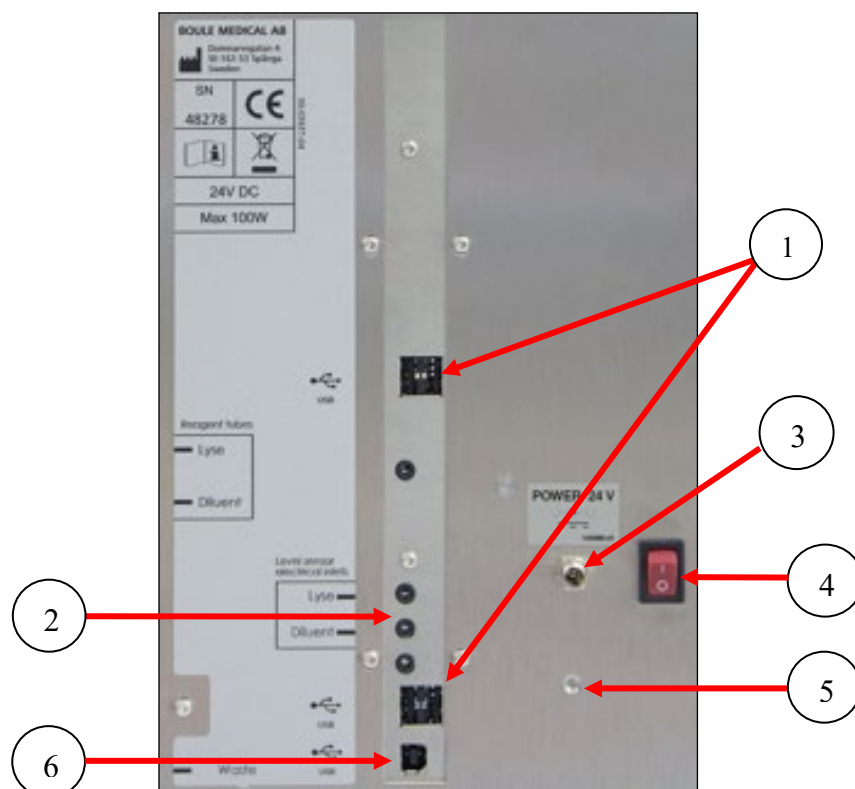

Figure 2.8
**Printer Connection** The printer is connected to the rear of the instrument with USB printer cable. (Printer is not manufactured by Boule.) See Figure 2.8.